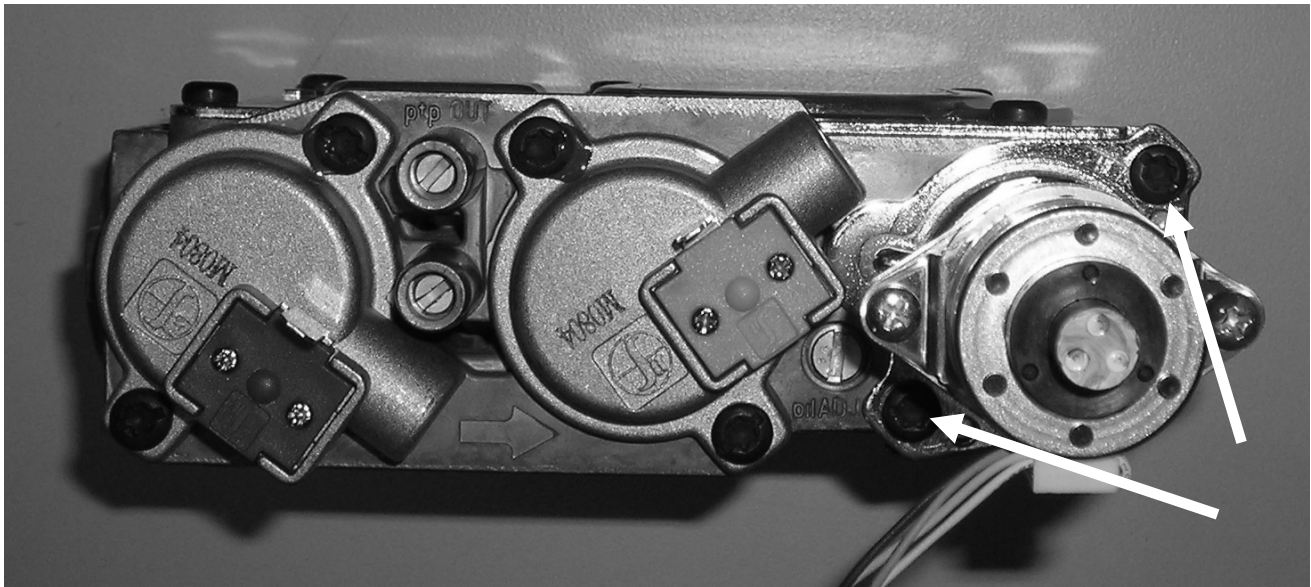

Figure 4
12. Locate and remove the two screws that mount the motorized regulator to the valve. See *Figure 4*.